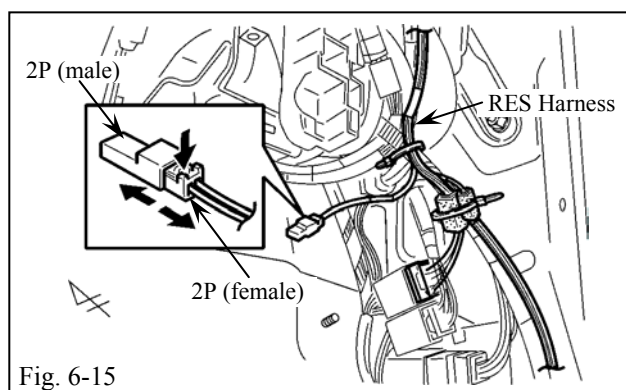

Fig. 6-15
- (v) Locate the RES Harness' white 2P Connectors, w/attached empty Male Connector, in the Passenger Side Cowl Area. (Fig. 6-15)
- (w) Disconnect the white Male 2P Connector. (Fig. 6-15)